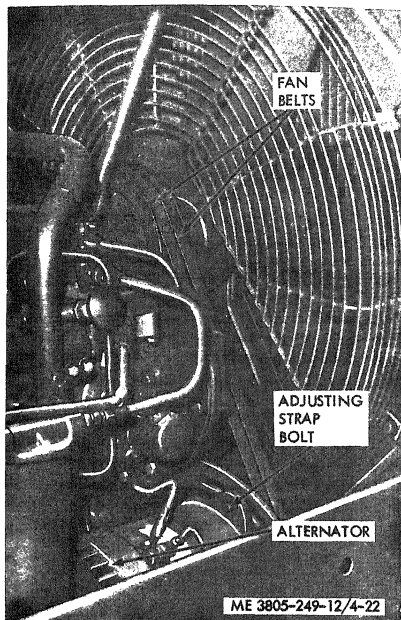

Figure 4-22. Fan belts.
b. Adjustment. Refer to figure 4-22.
- (1) Loosen the alternator adjusting strap bolt.
- (2) Move the alternator in or out as required to attain a deflection of $7/8$ inch at a force of 25 pounds.
- (3) Tighten the adjusting strap bolt.